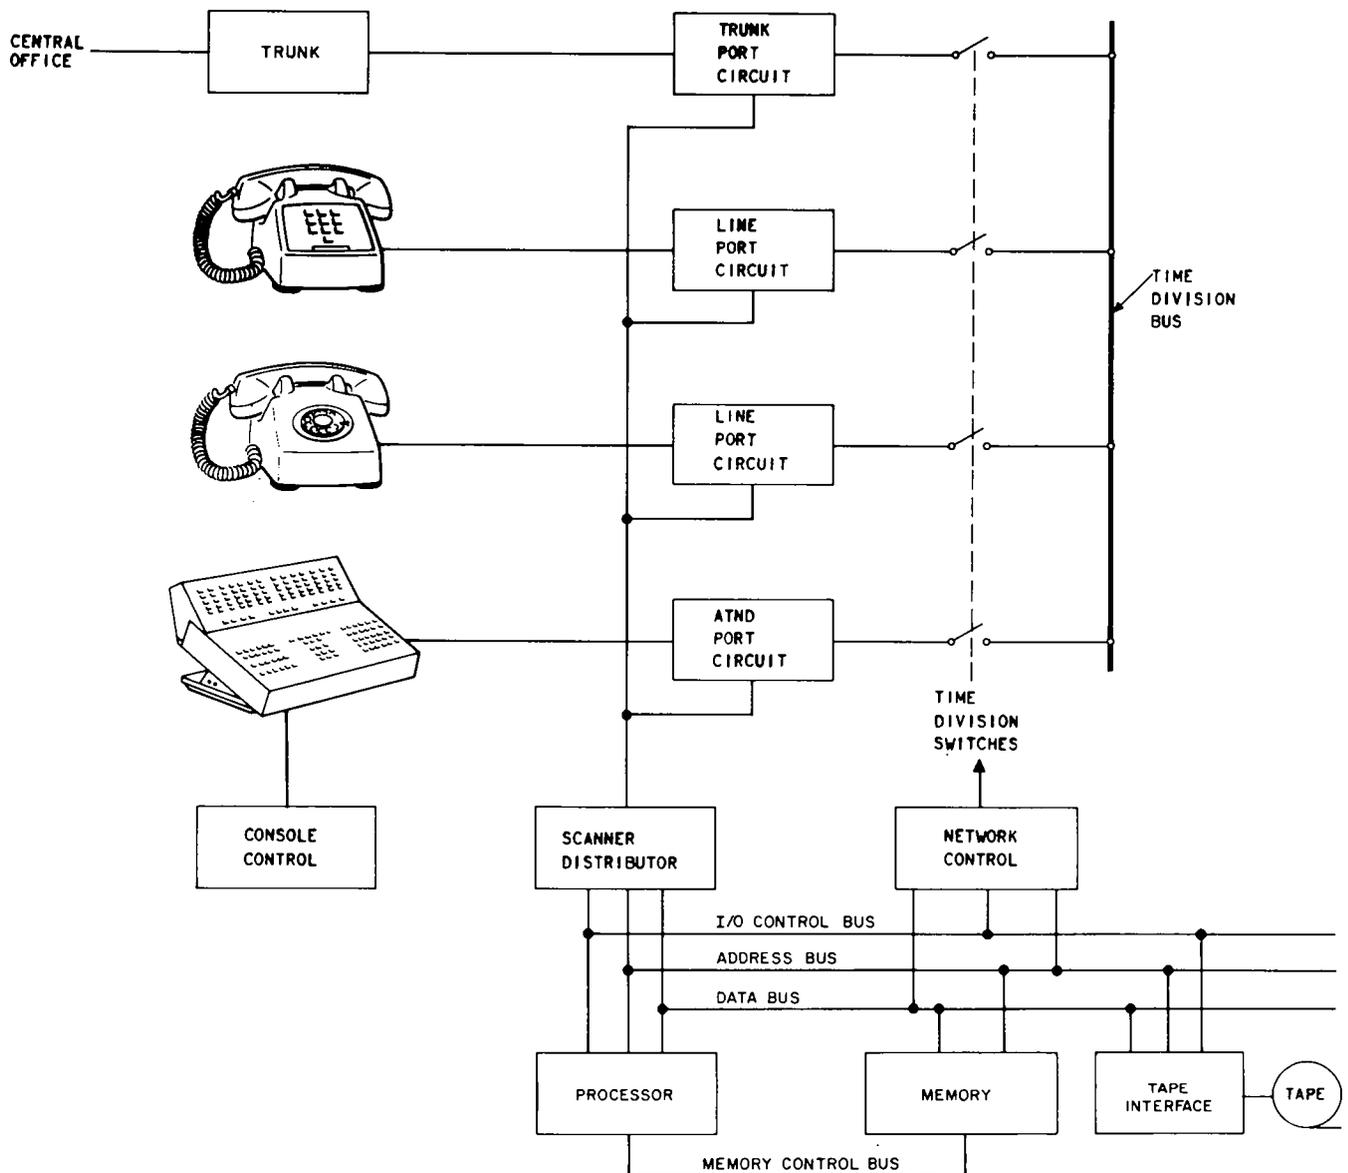

Fig. 2—Time Division Switching—Functional Block Diagram
**2.10** The DIMENSION PRELUDE PBX uses time division switching (Fig. 2) which involves sampling signals at the port circuits, summing the sampled signals in a central amplifier, and distributing the signals to the port circuits. The sampled signals charge an input capacitor at each port circuit
**2.11** Each port circuit (line, trunk, attendant interface, etc) contains a time slot memory (shift register) and a time division switch. The basic time division network includes a port circuit and a common bus wired to each port circuit with associated amplifiers and control circuits (Fig. 2).